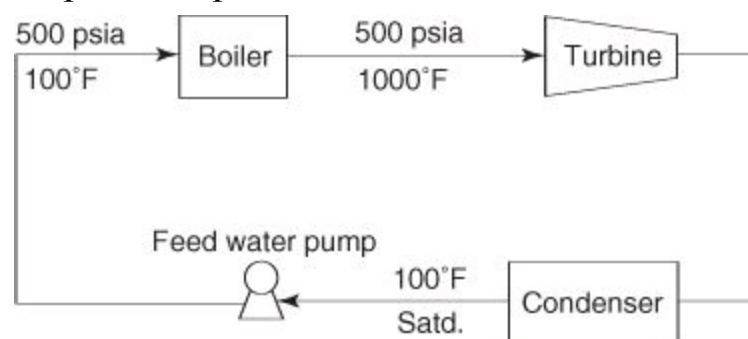

Figure P14.13
- *14.13. A power plant is as shown in Figure P14.13. If the pump moves 100 gal/min into the boiler with an overall efficiency of 40%, find the horsepower required for the pump. List all additional assumptions required.